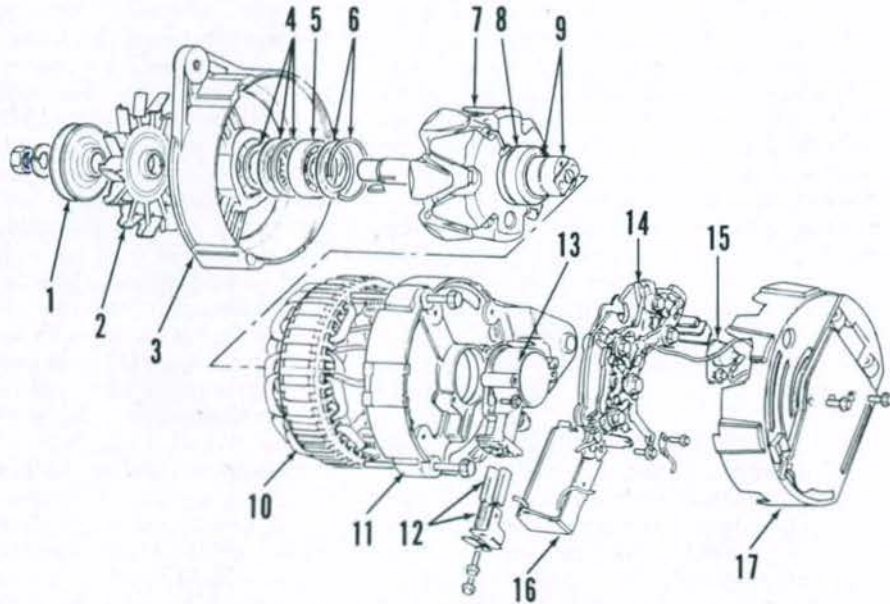

Fig. 107—Exploded view of typical Lucas alternator used on some MF240 and MF250 tractors.
104. **OVERHAUL.** To disassemble alternator, first remove rear cover (17—Fig. 107). Disconnect and remove surge protection diode, regulator (16) and brush holder (13) with brushes (12). Note that these parts can be removed without removing the alternator from the engine. Any further disassembly of alternator will require removal of alternator.